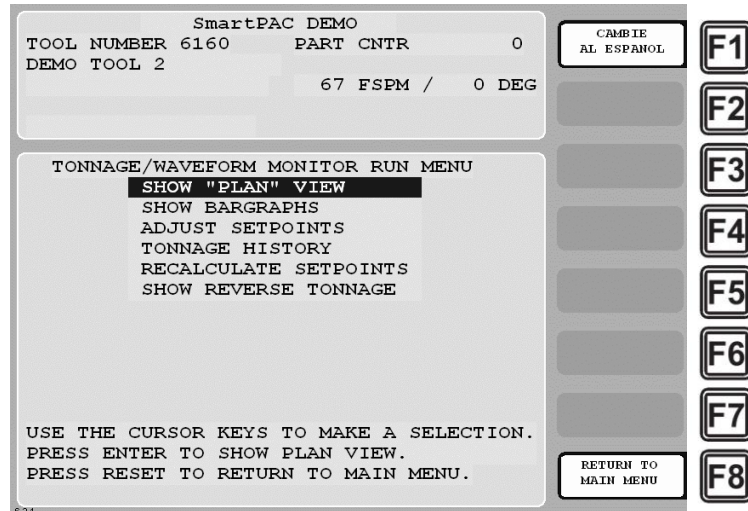

Figure 5-2. Tonnage Monitor Run Menu
3. Select “TONNAGE/WAVEFORM.” The Tonnage Monitor Run Menu (see Figure 5-2) displays. The items displayed on the Tonnage Monitor Run Menu depend on security access settings. The RECALCULATE SETPOINTS item does not appear if the LOAD MONITOR item on the Security Access Menu in Initialization mode has been set to “NO RECALC/ADJUST.”